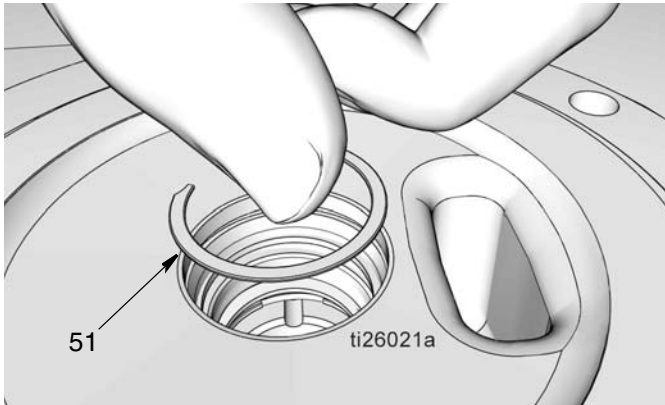

FIG. 37
- f. Install retaining clip (51) (FIG. 37). You should hear a “click” when the retaining clip is correctly seated in the groove.